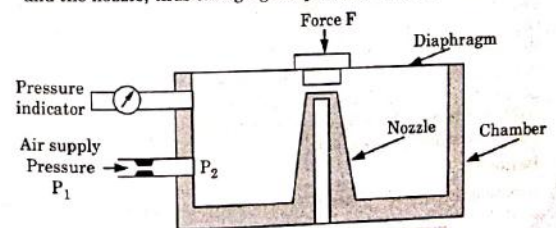

Fig. 5.20.2. Pneumatic load cell.
3. **Pneumatic load cell :** In this type of load cell as shown in Fig. 5.20.2, air is supplied under pressure to a chamber having a diaphragm at one end and a nozzle at the other. Application of force to the diaphragm deforms it and changes the gap between the extension of the diaphragm and the nozzle, thus changing the pressure in the chamber.